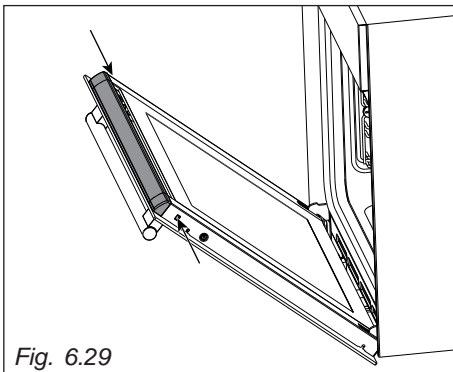
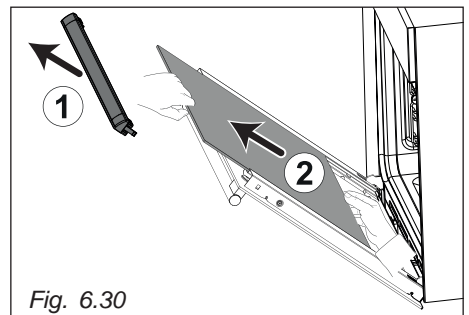

Fig. 6.29
Fig. 6.30
- Press the tabs on the sides of the glass retainer which is positioned at the top of the oven door (arrows in fig. 6.29), then gently remove the retainer (arrow 1 in fig. 6.30).
- Gently pull out the inner pane of glass (arrow 2 in fig. 6.30).